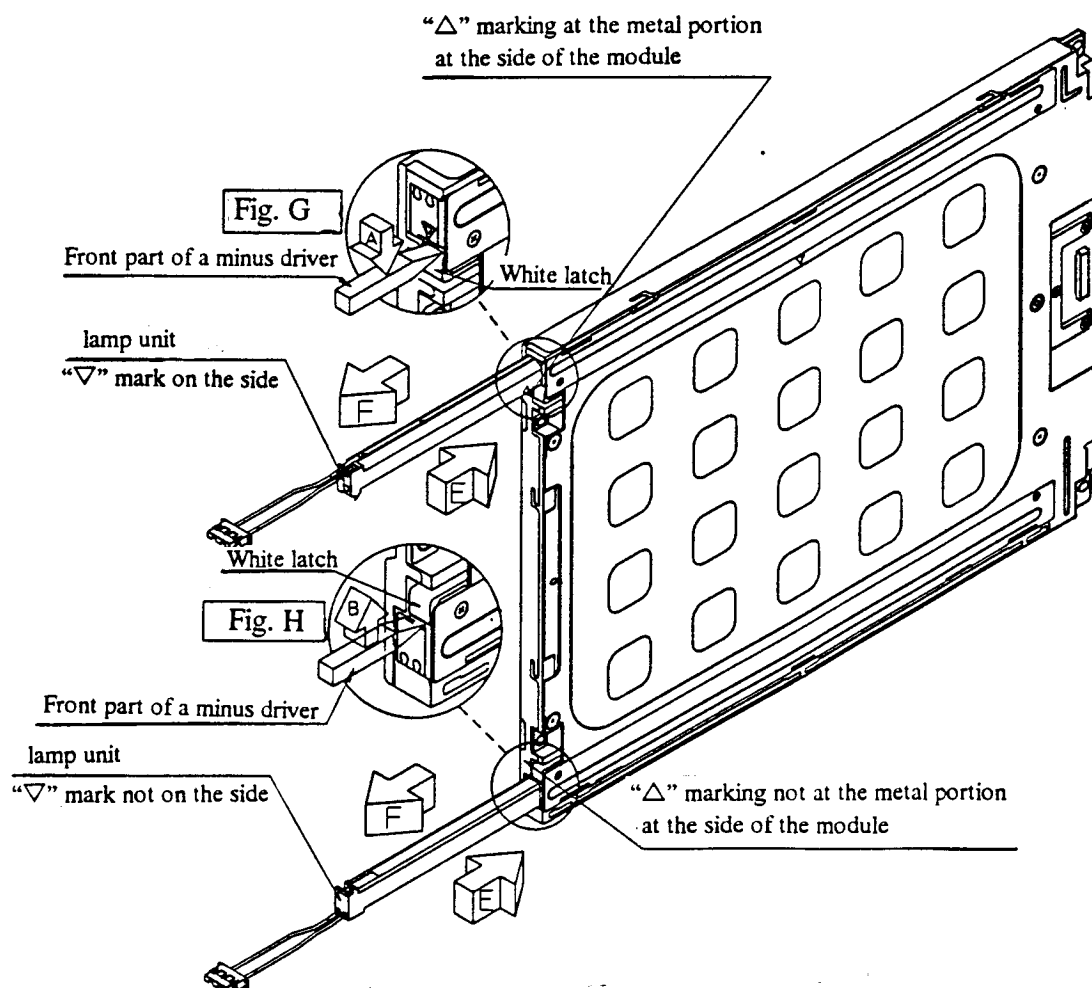
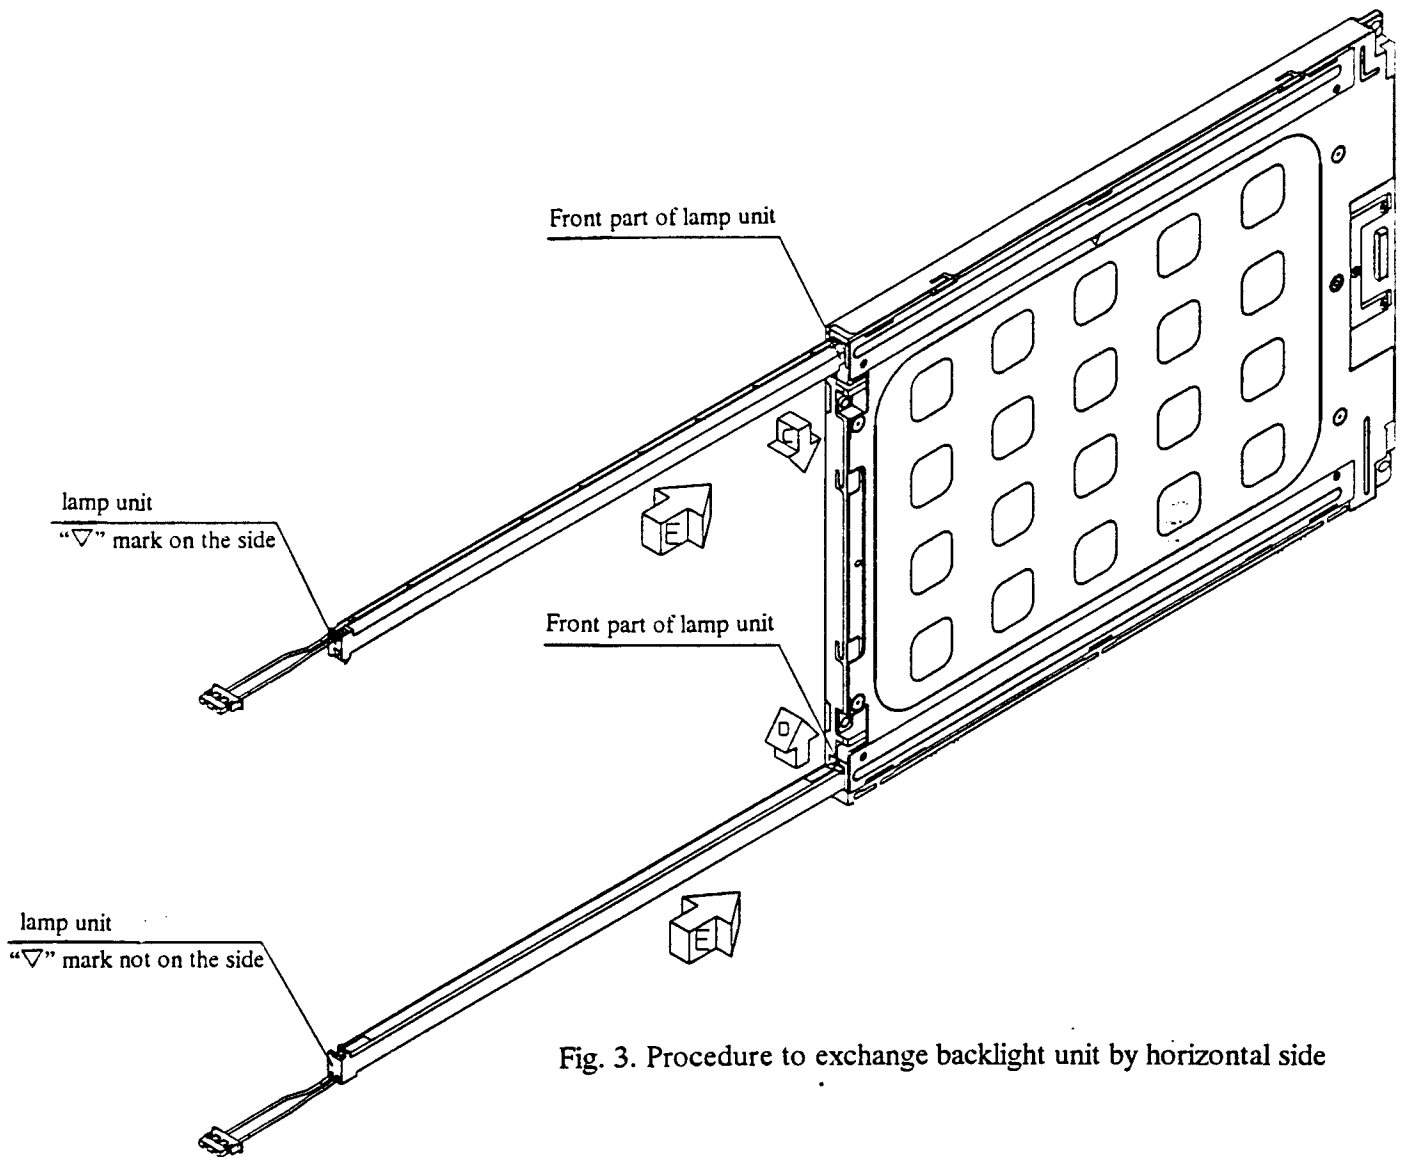

Fig. 2. Procedure to exchange backlight unit by horizontal side
Fig. 3. Procedure to exchange backlight unit by horizontal side
## 8-1) By Horizontal Slide(refer to Fig.2 and Fig. 3)
- ① Push the white latch (refer to the Fig.G and Fig.H) in the direction A or B with a minus driver. Lamp unit can be drawn out in the direction " F " . (refer to Fig. 2)
- ② Replace the new lamp unit with the one that has a marking "▽" on the surface. And the other new unit with no marking on it. Insert both lamp in the direction " C " When inserting the lamp, push the light guideplate, located inside the LCD module, in the direction " C " or " D " so that the lamp unit can be inserted smoothly. Then insert in the direction " E. " (refer to Fig. 3)
- ③ Please insert the lamp with care while replacing. Please be careful for any dust that goes in. Please make sure that the lamp unit is in all the way. You can hear the sound " click", if the Lamp unit is placed in the right position.
- ④. Not only one side ,both lamps should be exchanged.